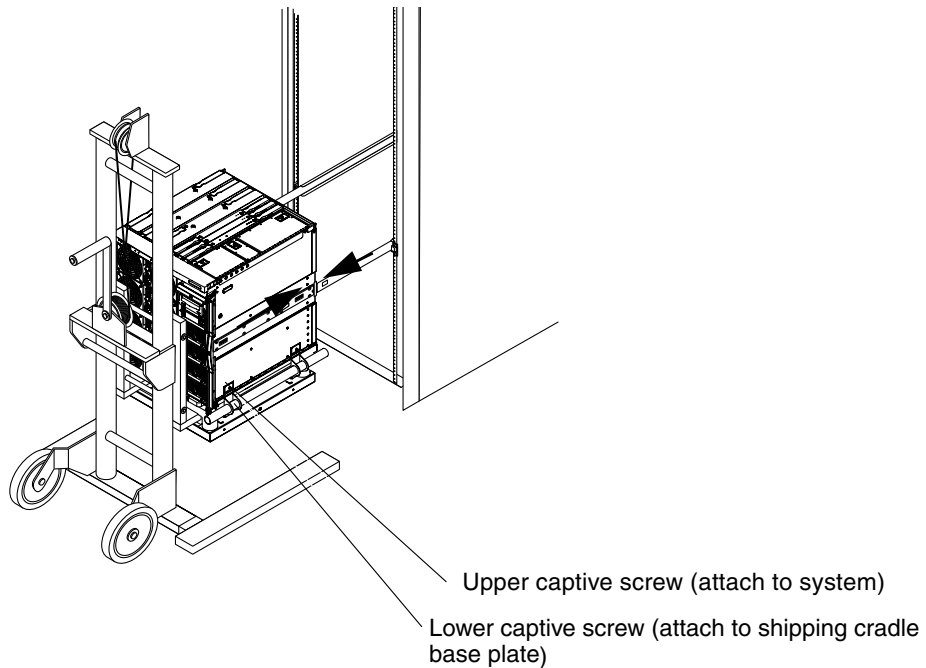

FIGURE 3-9 Securing the Captive Screws
8. Slide the shipping cradle handles inward until they contact the sides of the system. Tighten all eight captive screws (FIGURE 3-9):
5. **With the lifting device supporting the weight of the system, raise the system until it is level with the outer slides on the cabinet (FIGURE 3-9).**
6. **Carefully move the lifting device forward until the slides on the system are fully engaged with the outer slides on the cabinet (FIGURE 3-9).**
7. **With the lifting device still supporting the weight of the system, loosen all eight captive screws (FIGURE 3-9):**